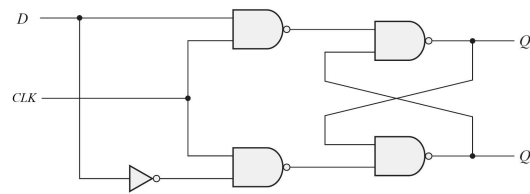

Fig.4: D Latch
1. Realize the **D Flip Flop** in Fig.4 using your **SSI Library**. Connect the ports, **CLK, D, Q, Qn** to **BTN, SW0, LED1, LED0**, respectively.